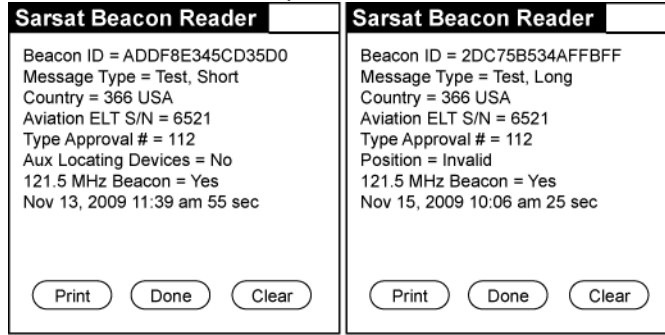

Figure 9 Short & Long 406 MHz Message Examples
- 3) Perform a self-test by placing the control switch in the "SELF-TEST" position. When the LED blinks once, release the switch. Example results are shown in Figure 9. Actual messages will vary depending on the protocol and information programmed into the ELT.